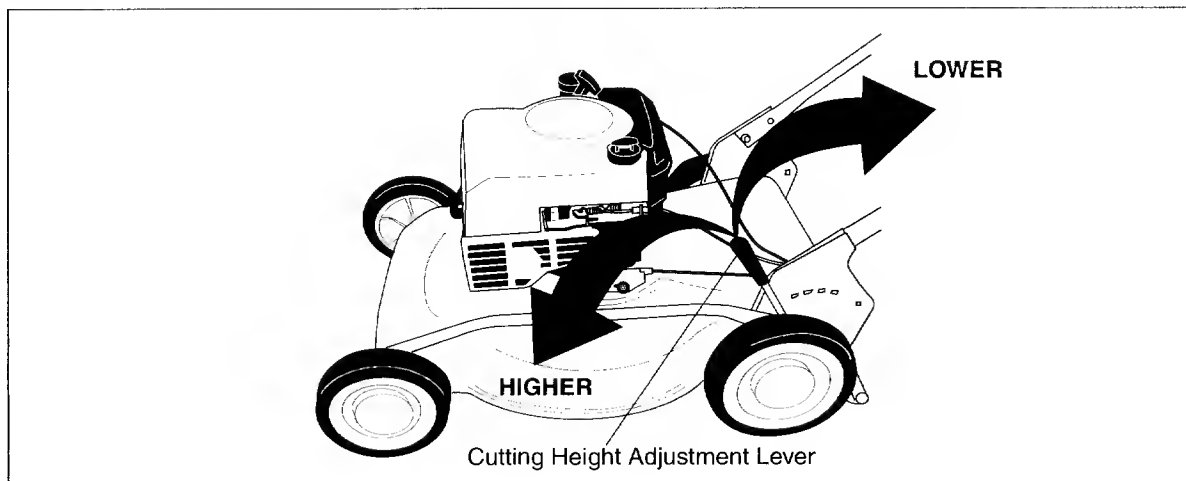

Figure 7
**Note:** Your mower is shipped with the cutting height in the lowest position. Adjust the cutting height as follows. The cutting height adjustment lever is located above the left rear wheel. To adjust the cutting height, pull the lever out and away from the mower and then move it forward or back to select a new cutting height. See Figure 7.